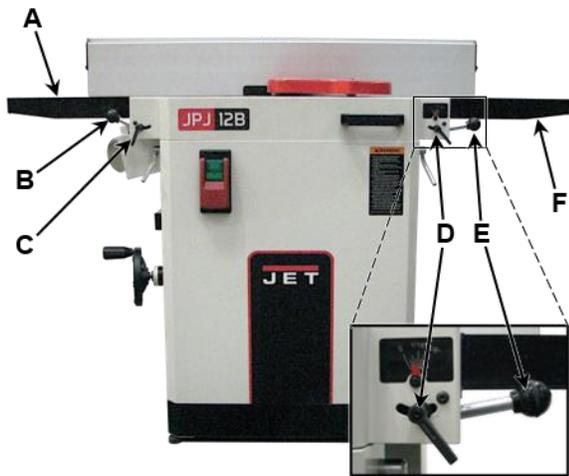

Figure 7
Refer to Figure 7:
1. Set the *infeed table* (F, Fig. 7) to approximately the same height as the *outfeed table* (A, Fig. 7).
2. Move the *fence* (A) by releasing the *assembly locking handle* (F) and pushing the *fence assembly* (E) until it overlaps the tables. Then, tighten the *assembly locking handle* (F).
3. Adjust the *fence* (A) to a 90° angle by releasing *tilt locking handle* (G), pulling the fence upright, and tightening the tilt locking handle.
2. Move the *fence* (A) by releasing the *assembly locking handle* (F) and pushing the *fence assembly* (E) until it overlaps the tables, then tighten the *assembly locking handle* (F).
3. Adjust the *fence* (A) to a 135° angle by releasing the *tilt locking handle* (G), moving the *stop plate* (D) out of the way, and positioning the fence against the *backward stop bolt* (H). Tighten the *tilt locking handle* (G).
4. Place an angle measuring device on the table and against the *fence* (A) to confirm a 135° setting.
5. To adjust, loosen the *tilt locking handle* (G) and *lock nut* (I), then turn the *backward stop bolt* (H) until a 135° angle is obtained.
6. Tighten the *lock nut* (I) to retain the setting. Tighten the *tilt locking handle* (G).
2. Fully swing the *cutterhead guard* (G) away from the *fence* (B). It is recommended to then use a *6mm hex wrench* (F) (one is included with the machine) as a makeshift stop to hold the guard in place. To do this, insert the wrench into the front right roller tension adjustment screw. The cutterhead guard can then be released and the wrench will prevent it from swinging back towards the fence.
3. Slide the *fence assembly* (B) back (C) as far as it will go, or remove it from the machine entirely (use a 5mm hex wrench to remove the four button head socket screws and then remove the fence assembly).
4. Loosen the *outfeed table lock handle* (C, Fig. 7) on the *outfeed table* (A). Use the *outfeed table adjustment handle* (B, Fig. 7) to raise the outfeed table higher than the cutterhead.
7. Each table has four *adjustment cams*; two in front (A) and two in back (D). A small hole with a *set screw* (C) inside is near each cam.
Note: The two cams at the front of each table are concealed by the *front cover* (B). The front cams furthest from the cutterhead can be accessed from below the cover, when the jointer table is raised and the machine is in the planer orientation (see *sect. 9.1, Jointer to Planer Setup*). If adjusting one of the front cams closest to the cutterhead, the front cover must first be removed to access the set screw. Use a cross-head screwdriver to remove the infeed table scale pointer, turn the *infeed table lock handle* (D, Fig. 7) and *outfeed table lock handle* (C, Fig. 7) counterclockwise to remove them, and use a 5mm hex wrench to remove the four flat head socket screws along the top of the front cover; then remove the front cover.